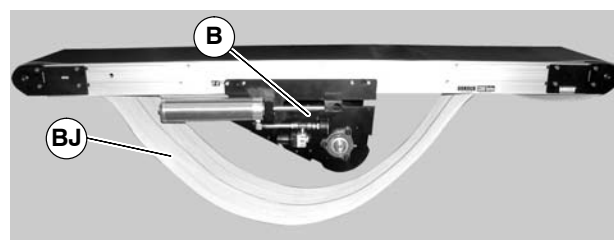

Figure 31
11. Remove belt (BJ of Figure 31) from center drive module (B) and conveyor.